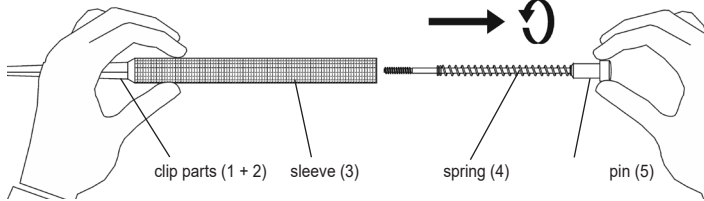

Fig. 2
- Screw the pin (5) out of the sleeve (3) and remove the pin with the spring (4) according to fig. 2.
- Disassemble the Bangerter muscle forceps according to fig. 2 to 4.
- Assemble the Bangerter muscle forceps according to fig. 2 to fig. 4 (in reverse order).
*When assembling, make sure that the pin (5) is not screwed tight by holding the sleeve (3).*